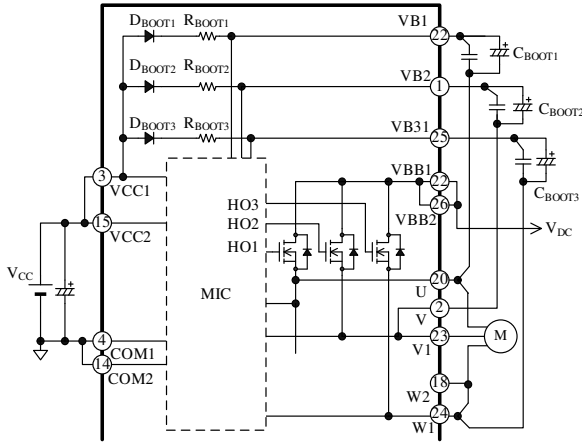

Figure 11-1. Bootstrap Circuit
As Figure 11-1 shows, a bootstrap diode, D_{BOOTx} , and a current-limiting resistor, R_{BOOTx} , are internally placed in series between the VCC1 and VBx pins. Time constant for the charging time of C_{BOOTx} , τ , can be computed by Equation (3):